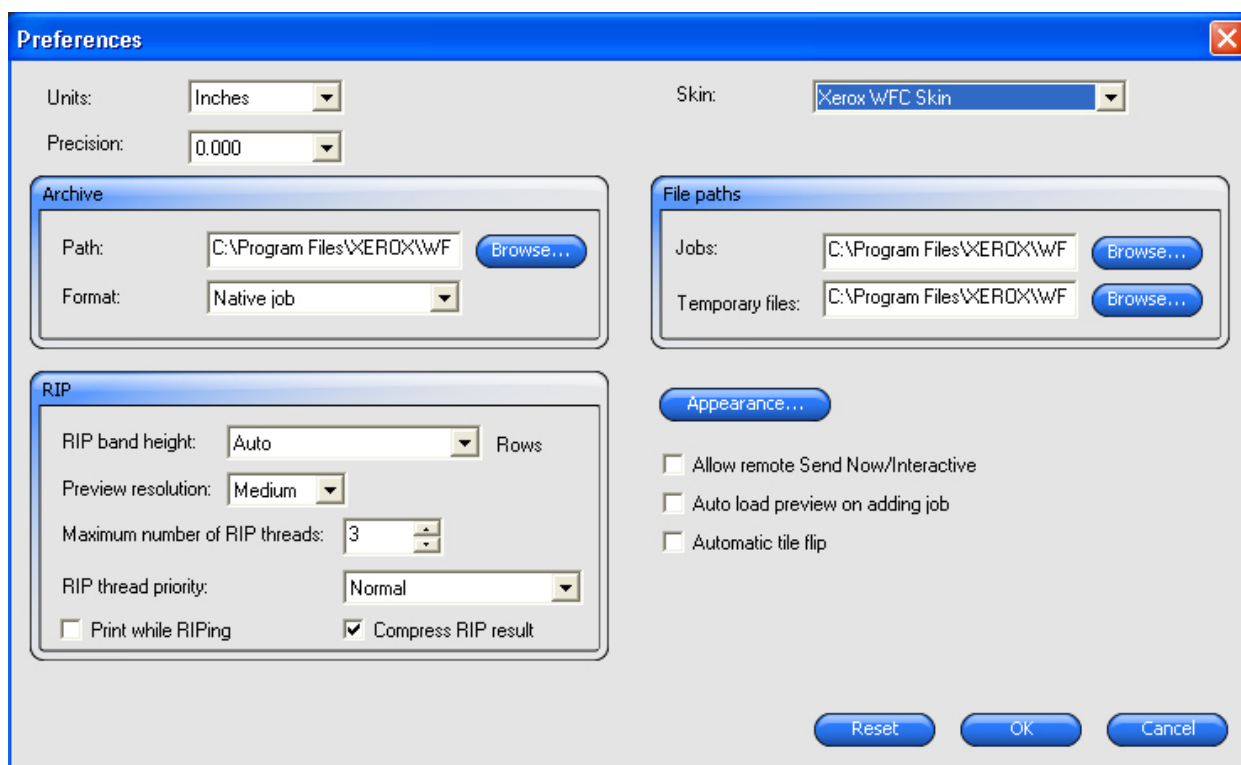

Figure 6. Preference (Pro Version)
1. At the Pull down Menu, select **Edit > Preferences**. The Preferences dialog box appears (Figure 6). The following options are available: